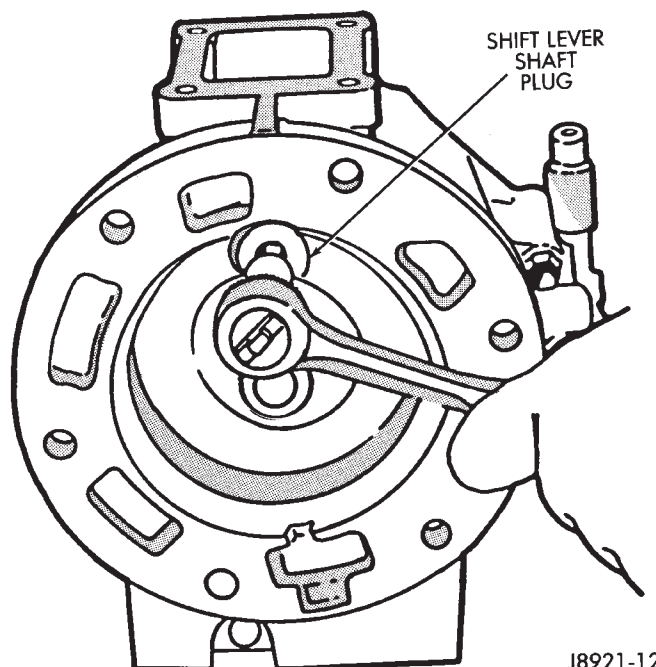

Fig. 24 Removing Shift Lever Shaft Plug
- (12) Remove shift lever shaft plug (Fig. 24).